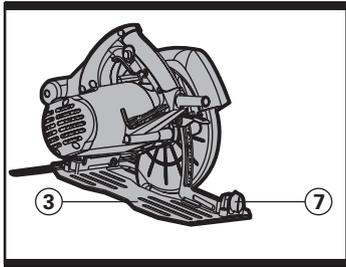

Fig 5
Adjusting the angle of the base plate (3) enables bevel cutting (See Fig 5). The base plate (3) must always be held firmly against the material being cut to reduce saw vibration, blade jumping or blade breakage (See Fig 5).
Loosen the base plate bevel lock knob (7) and rotate the base plate (3) to set the bevel angle using the base plate angle scale (17). Then clamp the base plate (3) in position using the lock knobs (7) (See Fig 5). Finally, check the angle and ensure the base plate is firmly clamped.